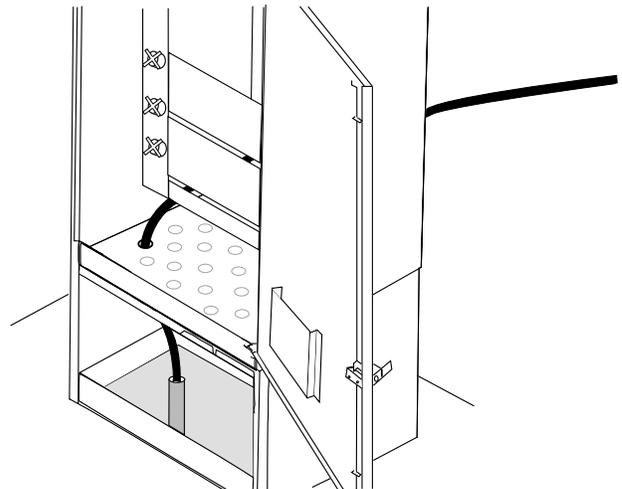

Figure 6
- Step 3** Temporarily position the cable out the rear of the cabinet (Figure 6).